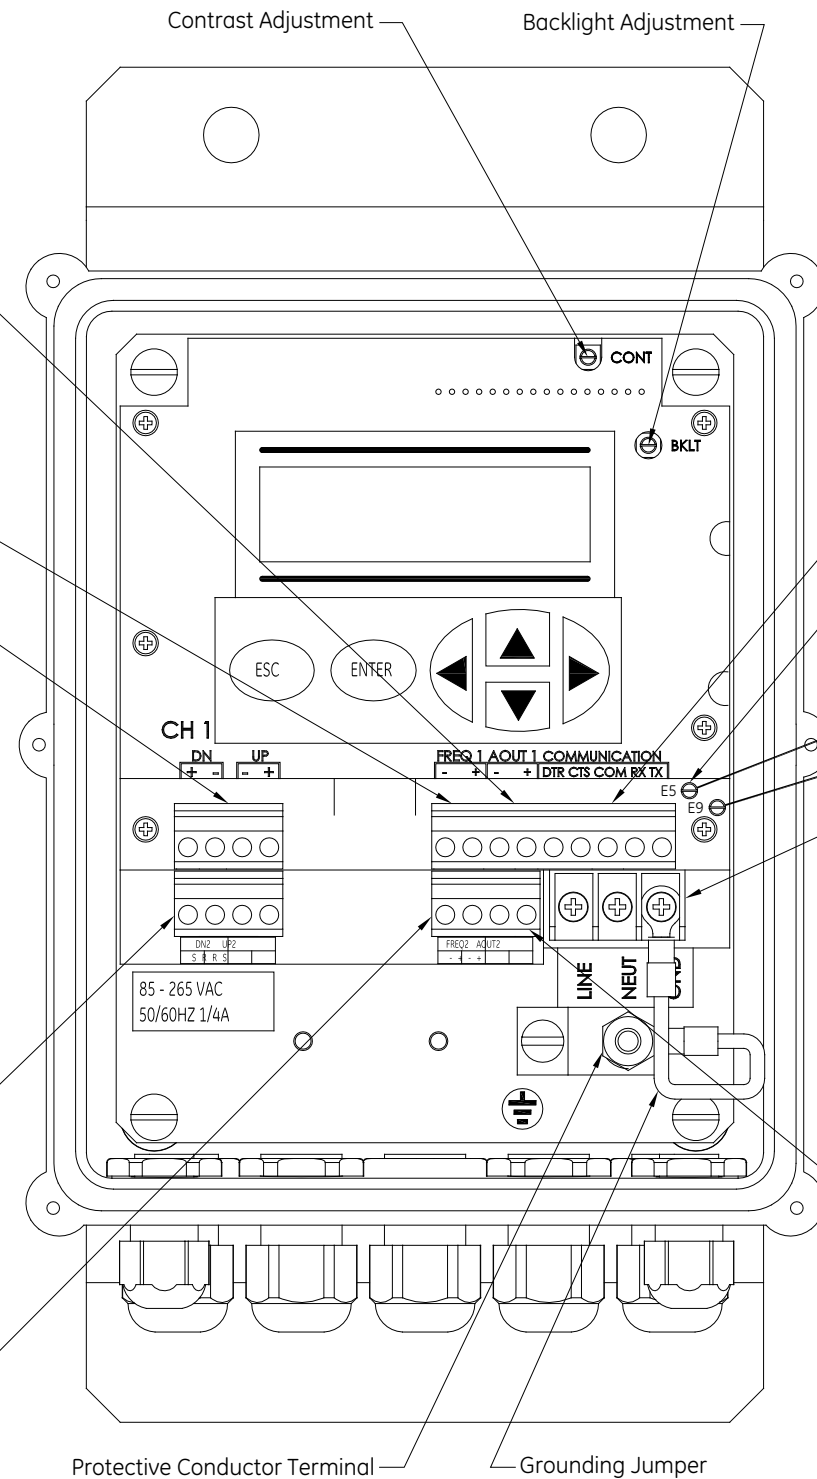

Figure 4: Wiring Diagram (Ref. Dwg. #702-425)
3. Feed the flying leads end of the cable through the conduit hole and wire the leads to the **COMMUNICATION** terminal block as shown in *Figure 4* on page 10. Connect the other end of the cable to the printer, ANSI terminal or personal computer, and secure the cable clamp.
To wire the RS485 serial port, refer to *Figure 4 on page 10* and complete the following steps:
2. Feed one end of the cable through the conduit hole and wire the leads to the **COMMUNICATION** terminal block as shown in *Figure 4 on page 10*. Secure the cable clamp.
2. Feed the wires through the conduit hole and wire lead **TMT+** to pin 2 (**RX**) on the **COMMUNICATION** terminal block (refer to *Figure 4 on page 10* for the terminal block location).
2. Refer to Figure 4 on page 10 to properly connect the external switch to the AT868.